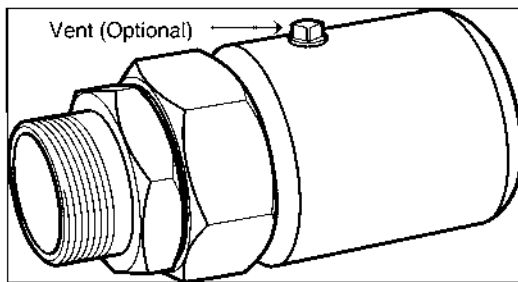

Figure: 4-46
- **TracPipe PS-II** fittings are constructed from **TracPipe® CounterStrike®** patented **AutoFlare®** fittings with a plastic containment coupling and 1/4 inch NPT vent port. Fittings assemble without special tools. Figure 4-46